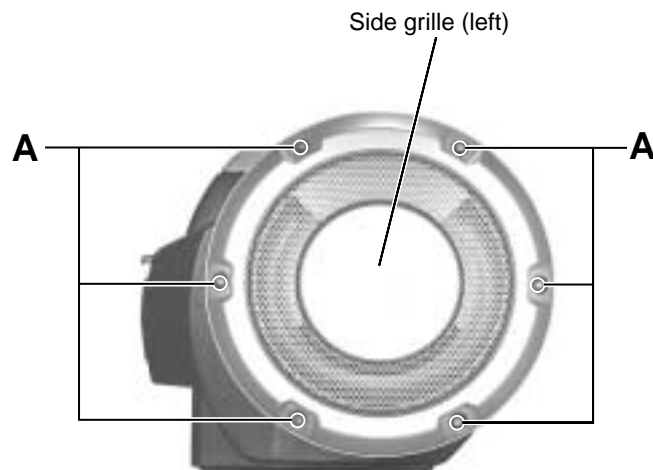

Fig.1
4. The microcomputer board is put up as shown in Fig.1.
(See Fig.1 and 2)